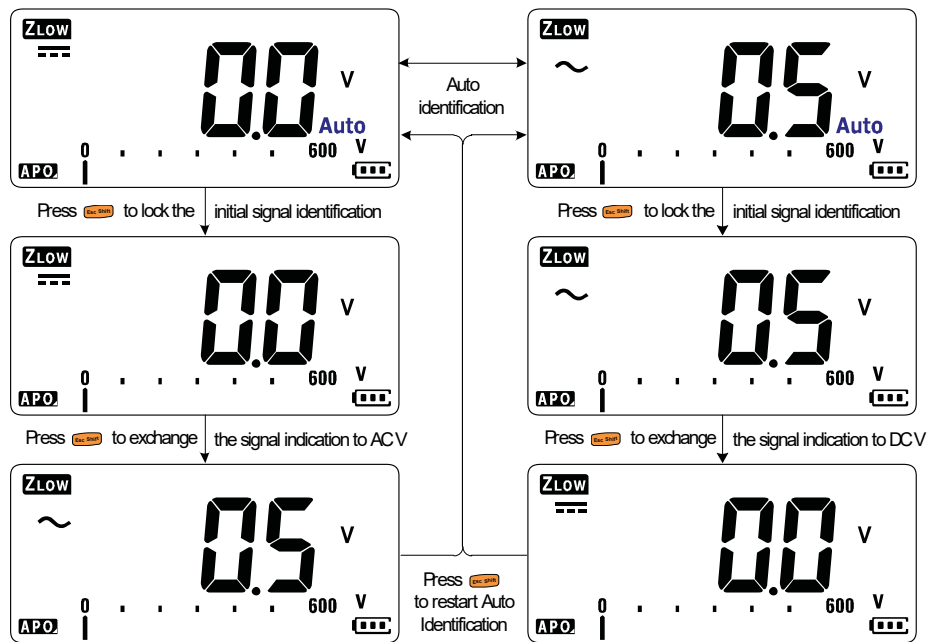

Figure 2-7 VZLOW auto identification flow
- Press **Esc Shift** once to lock the initial signal identification (AC V or DC V). Press **Esc Shift** again to exchange the AC and DC voltage indication on the primary display. Pressing **Esc Shift** for the third time will restart the auto identification of the signal. See Figure 2-7 to learn more.